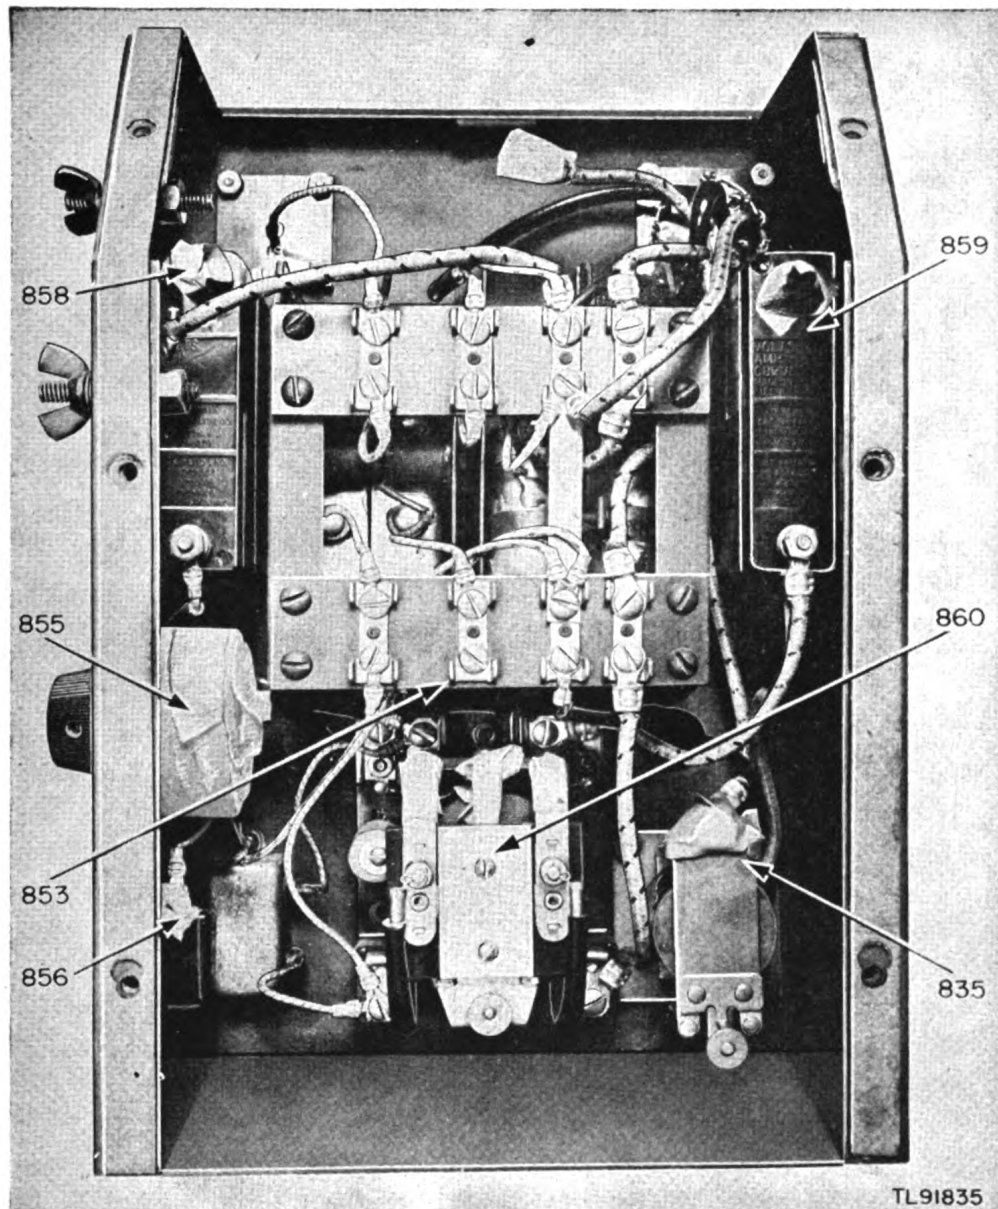

Figure 50. Interior of control box for Power Unit PE-49-F or PE-49-G—showing parts masked.
(6) Remove armature lead from lower terminal strip. (See fig. 50 (853).)
(9) Remove positive high-voltage lead (+) from top terminal of high-voltage circuit breaker. (See fig. 50 (858).)
(10) Remove negative high-voltage lead
(—) from lower terminal strip. (See fig. 50 (853).)
(11) Remove four cap screws holding control box to generator.
(12) Remove two locknuts holding control box to nipples.
(13) Remove control box, pulling generator leads through back of control box. These leads will be treated later.
(14) Remove lead from positive battery-charging terminal (fig. 50 (872)) to battery cut-out. (See fig. 50 (835).)
(15) Remove top of control box to be treated later.
(16) Replace and tighten all nuts and screws that were removed when the leads were removed.
(17) Clean all dirt, dust, rust, fungus, oil, grease, etc., from the equipment to be processed.
c. MASKING. (1) Use tape to mask the three pairs of contacts on top of the starting relay. (See fig. 50 (860).)
(2) Use tape to mask the pair of contacts on the battery cut-out. (See fig. 50 (835).)
(3) Use tape to mask the top terminal of the high-voltage circuit breaker. (See fig. 50 (858).)
(4) Use tape to mask contact on FIELD
SWITCH. (See fig. 50 (856).)
(5) Use tape to mask the top terminal on the low-voltage circuit breaker. (See fig. 50 (859).)
(6) Use paper and tape to mask rear and body of FIELD RHEOSTAT. (See fig. 50 (855).)
(1) Spray inside of control box and all attached components. (See fig. 50.)